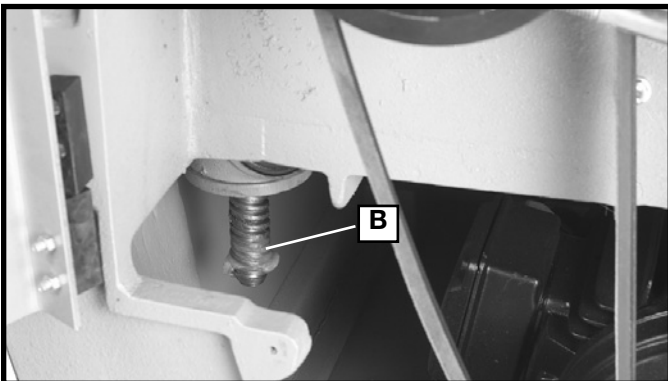

Fig. 42
2. As required, lubricate the four table raising and lowering screws, three of which are shown at (B) Fig. 42, with an automotive type lithium grease or equivalent.